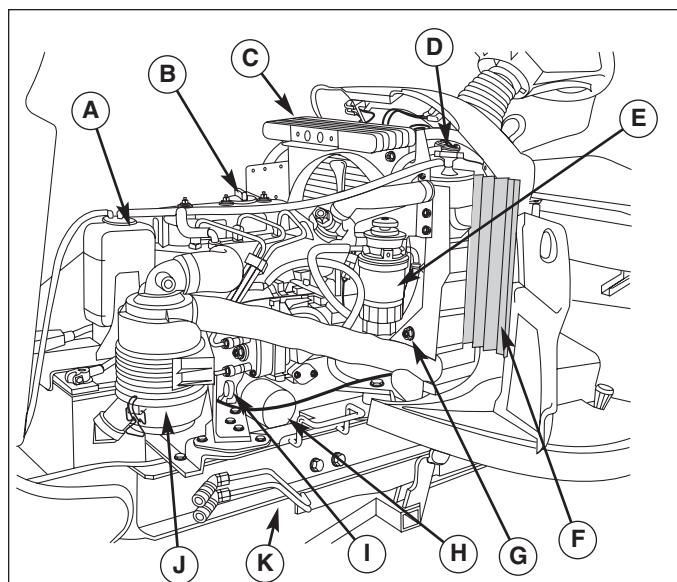

Figure 24. Engine
Clean the radiator, or radiator screen with compressed air at regular intervals, or if dirty. The radiator is located at the rear of the engine compartment on liquid-cooled models. Liquid cooled models also have a removable radiator screen (F, Figure 24). Clean all cooling system components.
The transmission oil cooler (C, Figures 24) is located behind the engine and should be cleaned with compressed air at regular intervals or if dirty.
1. Check the coolant level in the overflow reservoir (A, Figure 24). Coolant should be between the "H" and "L" marks on the tank.
See Engine Manual for antifreeze recommendations and change intervals. See Figures 24 for drain plug locations.
3. Place a container under the fuel filter tube and turn the base of the filter assembly (E, Figure 24) approximately 1 turn.